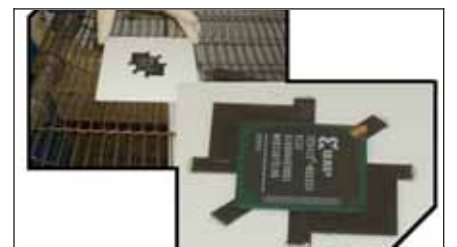

Figure 4
7. Place fixture onto the reflow station or into a reflow oven and reflow using the established profile. (Figure 4.)